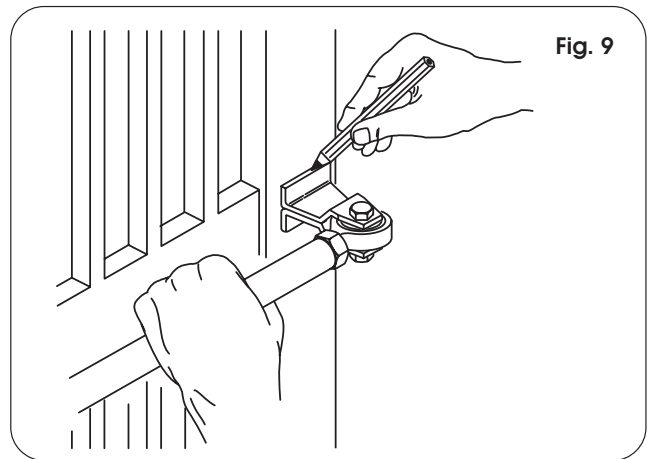

Fig. 9
- 8) Close the gate leaf and, keeping the operator perfectly horizontal, find the position of the front attachment (Fig. 9) on the leaf.